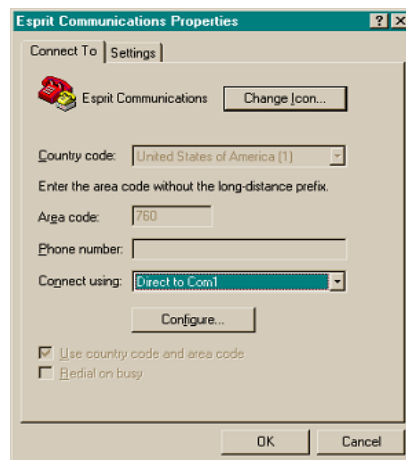

Figure 7-7: Selecting the Serial Port
5. Select the appropriate serial port (Figure 7-7 shows *Com1* selected), and then click **OK**.